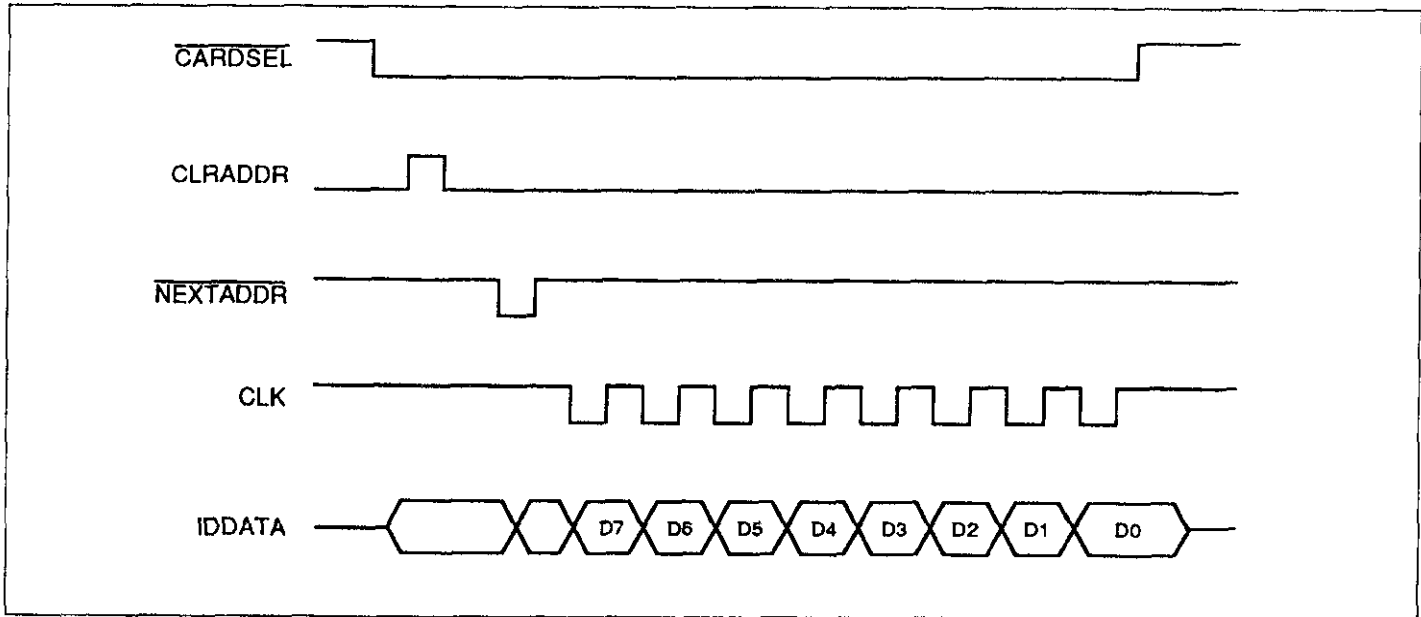

Figure 4-9. IDDATA Timing Diagram
On power up, control line CARDSEL goes low turning on the EPROM (U27). That control line, as well as the other control lines from the Model 707, are buffered by U44. Lines CLK, NEXT ADDR and CLR ADDR along with counter U45 control the task of loading data from the EPROM into the parallel to serial shift register (U43). Data sent from U47 to the Model 707 via the IDDATA line is strobed by the CLK control line. The timing diagram in Figure 4-9, shows the first byte of identification data during the transfer sequence. For subsequent bytes, the CLRADDR line stays low.
**See Figure 4-9